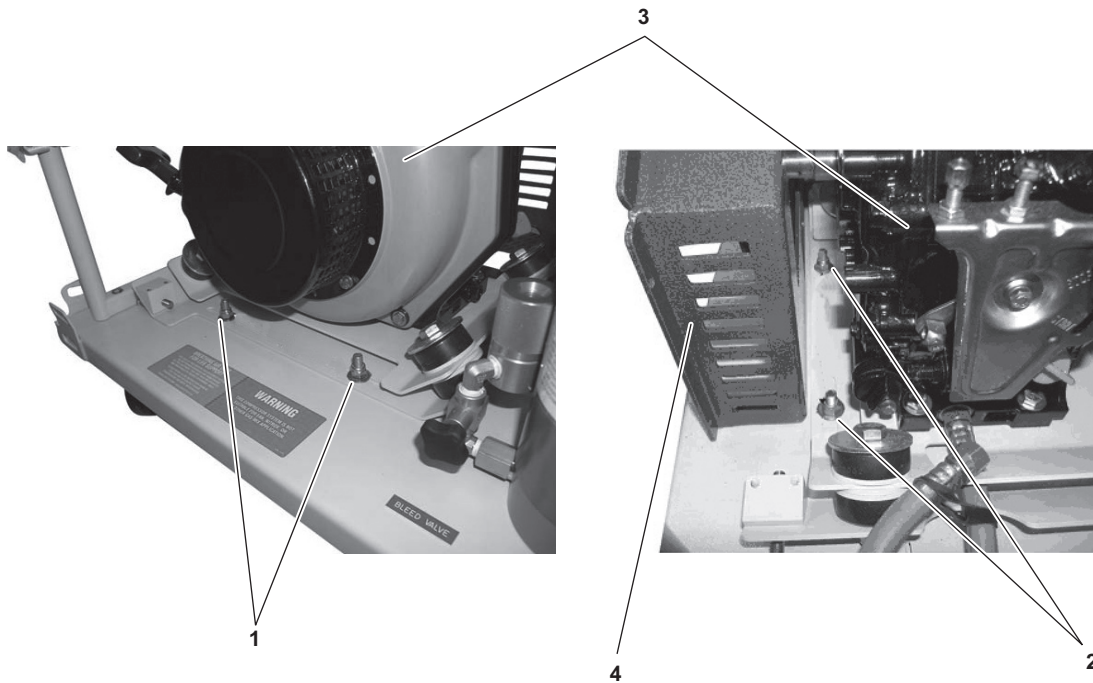
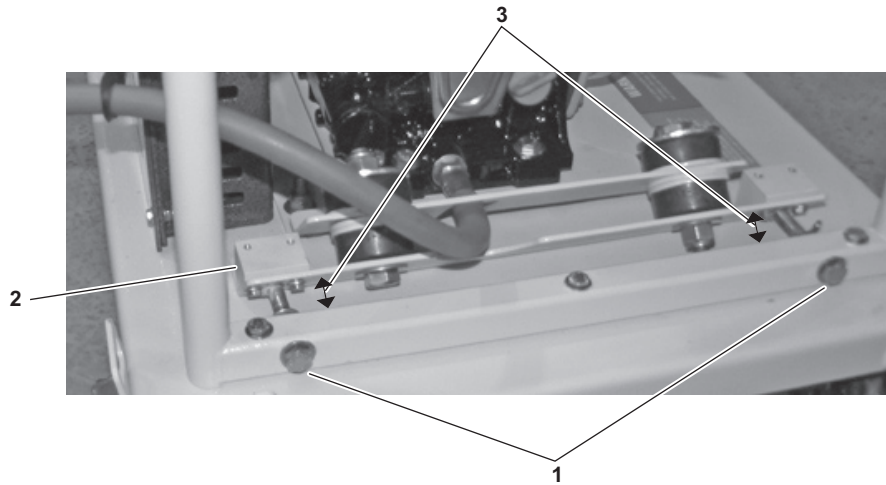

Figure 6-2. Location of Nylon Hex Nuts
Figure 6-3. Jacking Bolts of the Tensioning Assembly
- (1) Ensure that the diesel engine is shut down and that the START/STOP control knob is in the STOP position.
- (2) Remove the outer belt guard IAW procedures in paragraph 6.4.1.b.
- (3) Using a 9/16 inch wrench, loosen but do not remove the four nylon hex nuts (figure 6-2, items 1 and 2) that secure the engine base plate to the frame. Two nuts (figure 6-2, item 1) are located in front of the engine (figure 6-2, item 3) and two nuts (figure 6-2, item 2) are located between the engine and the belt guard (figure 6-2, item 4).
- (4) Start the E-BAC/SS IAW procedures in paragraph 2.3.3. Keep hands well away from the moving belt as serious personal injury or death could result.
- (5) Adjust the engine position by turning the jacking bolts (figure 6-3, item 1) of the tensioning assembly (figure 6-3, item 2) with a 9/16 inch wrench. Turn each jacking bolt one turn at a time.
- (6) Ensure that the engine base plate is parallel to the frame by using a ruler to measure the distance between the base plate edge and the edge of the frame support. Take measurements (figure 6-3, item 3) near each jacking bolt (figure 6-3, item 1).
- (7) Perform steps (5) and (6) until the belt runs smoothly without wobbling.
- (8) Shut down the E-BAC/SS IAW paragraph 2.3.5.
- (9) Using a 9/16 inch wrench, tighten the four nylon hex nuts (figure 6-2, items 1 and 3) that secure the engine base plate to the frame.
- (10) Install the outer belt guard IAW procedures in paragraph 6.4.1.c.